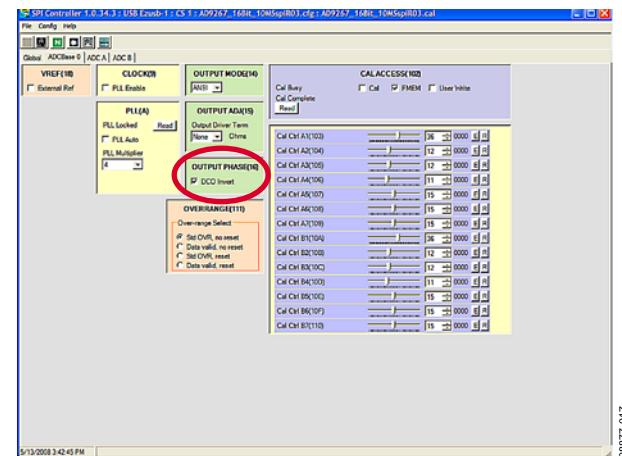

Figure 17. DCO Invert
1. Select the **DCO Invert** box in the SPIController software of the AD9267 (see Figure 17).